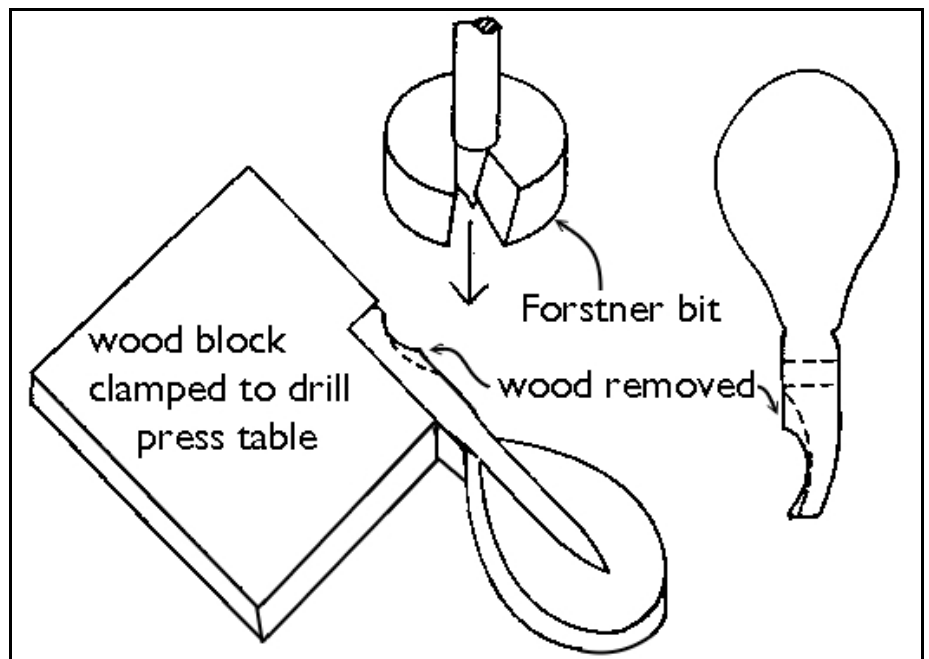

Figure 4: Removing weight from inside the tails using a Forstner bit in a drill press
4. Cove inside of tails: If you need to remove as much weight as possible to match light-weight original hammers, you might gain a slight benefit by removing excess wood from the coved area inside of the tails, as in Figure 4. Most brands of replacement hammers already have a generous coving here so this method is most useful when preparing completely unshaped moldings.